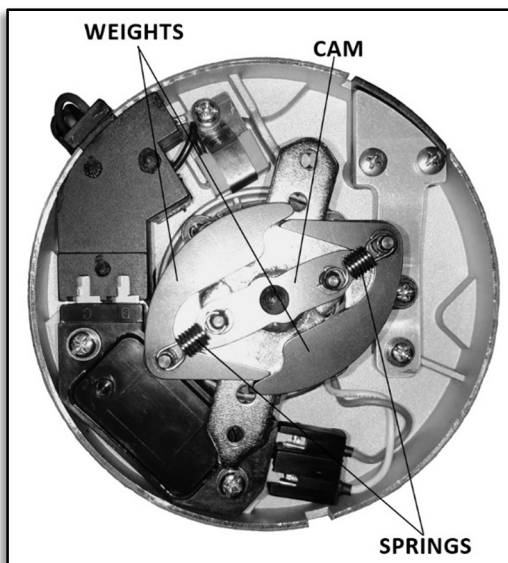

Figure 1. Centrifugal advance
2. Remove the advance components including the springs, weights, advance cam, and e-clips (Figure 1).